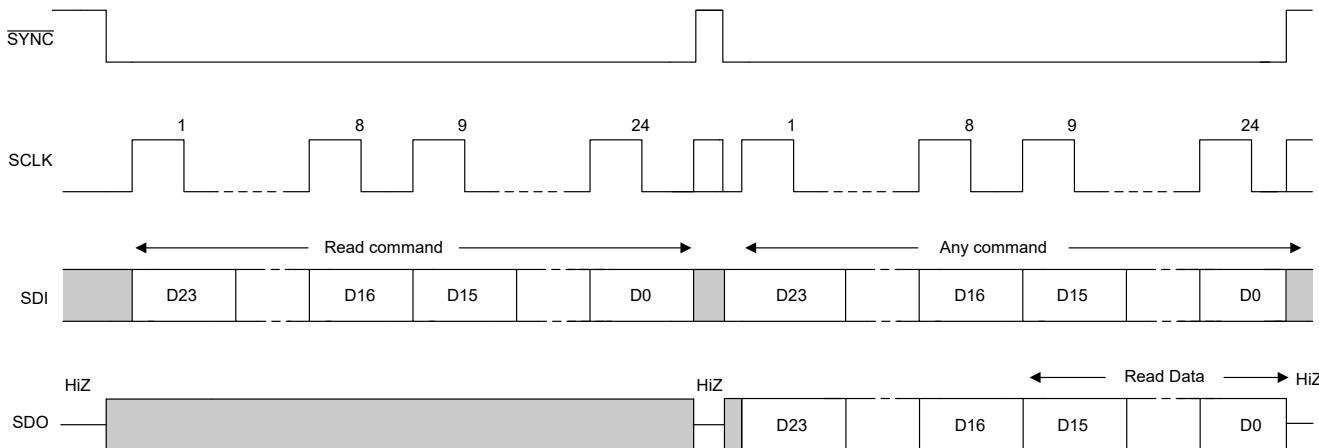

**Figure 7-14. SPI Write Cycle**
**Table 7-12** and **Figure 7-14** describe the format for the 24-bit SPI access cycle. The first byte input to SDI is the instruction cycle. The instruction cycle identifies the request as a read or write command and the 7-bit address that is to be accessed. The last 16 bits in the cycle form the data cycle.